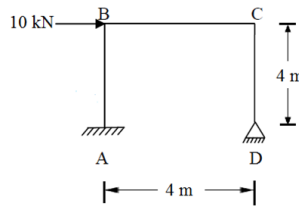

Figure 9
- (b) Analyse the portal frame shown in Figure 9 using moment distribution method and draw the bending moment diagram and deflected shape of the frame. Take EI constant for all the members. [7M]